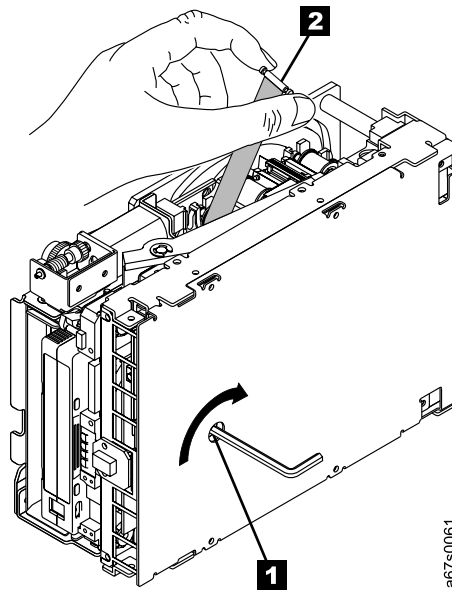

Figure 32. Rewinding the leader pin into the tape cartridge
1. Place the tape drive so that the front faces you, then tilt it on its left side (see Figure 32 on page 98).
3. If necessary, use needle-nose pliers to grasp the end of the leader pin and pull it out of the cartridge so that you can grip it with your fingers (see **1** in Figure 32).